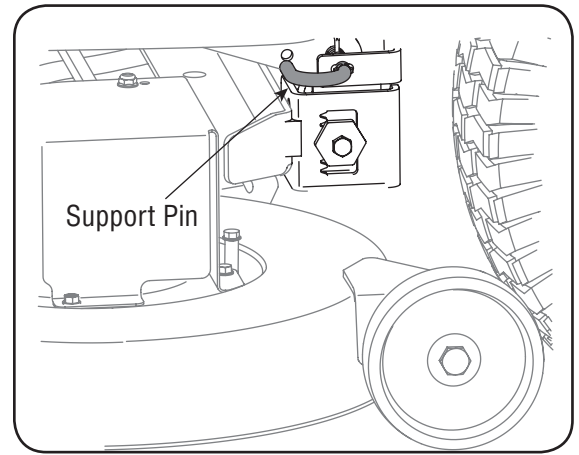

Figure 6-5
5. Looking at the cutting deck from the left side of the tractor, locate the deck support pin on the rear left side of the deck. See Figure 6-5.